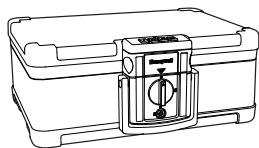

Figure 4.1
1. Carefully lower lid into the closed position and push it downwards to ensure it is properly latched (Figure 4.1).